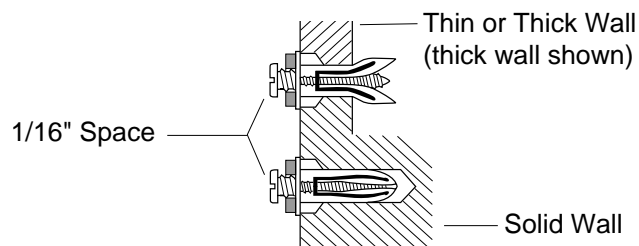

Figure 8 - Tightening Anchors
5. Tighten two screws until 1/16" space (thickness of penny) is between screwheads and wall (see Figure 8).